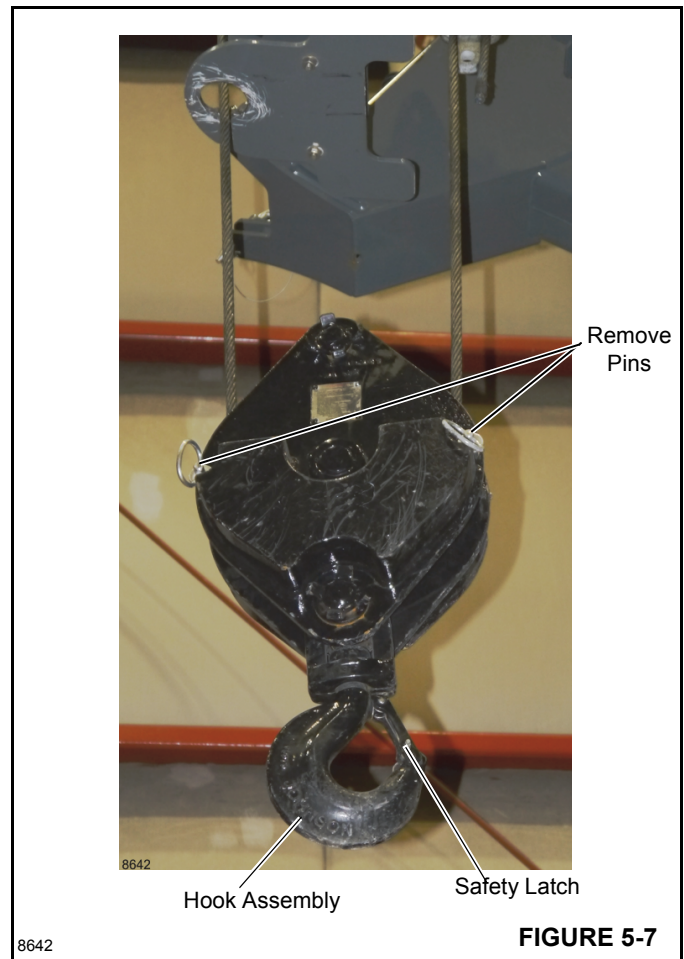

FIGURE 5-7
Ensure that the hook assembly's safety latch Figure 5-7 does not get damaged.
3. Remove the two pins as indicated in Figure 5-7.
1. Remove the pins and hook assembly from the hook block assembly. See Figure 5-7.